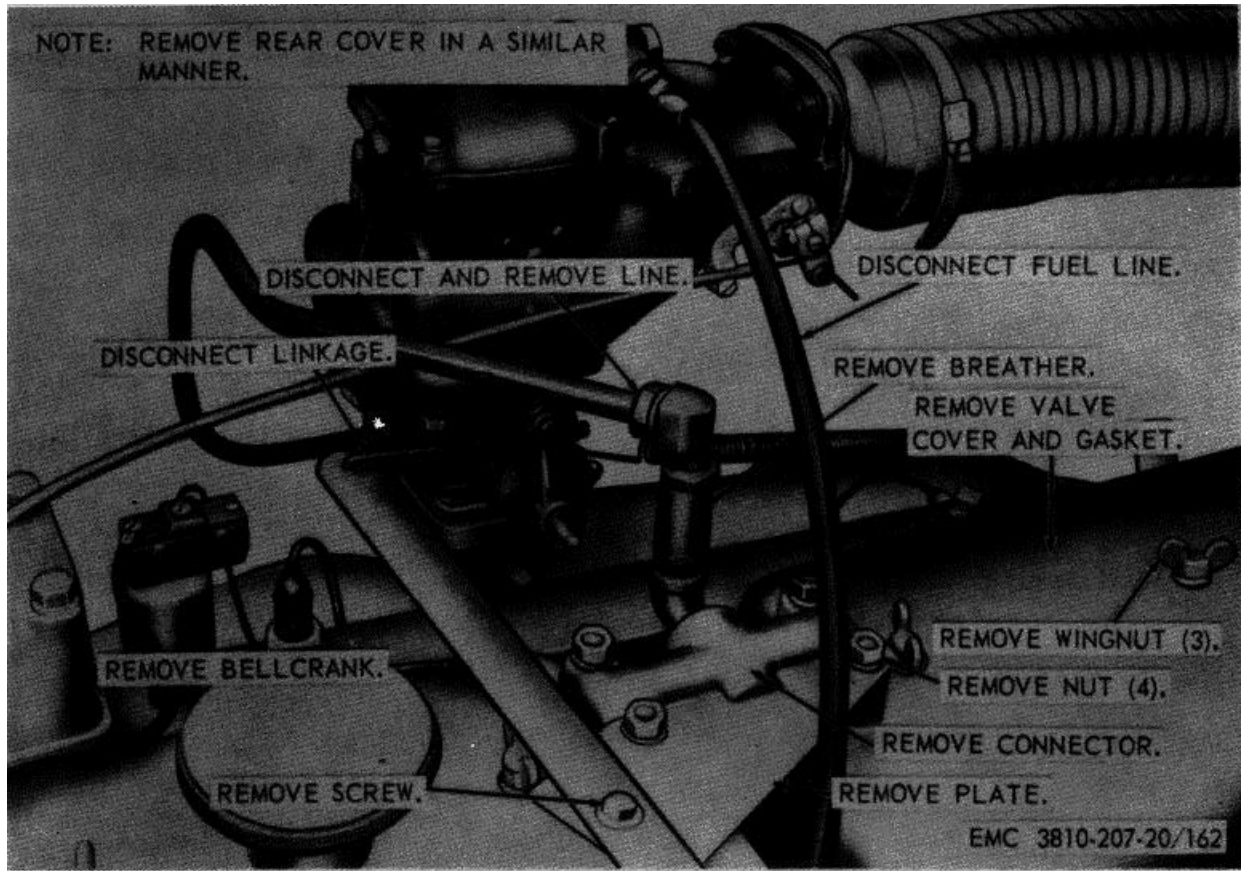

Figure 162. Valve cover, removal and installation.
- (1) Remove the breather tube from the valve cover assembly (par. 240).
- (2) Remove the accelerator bellcrank (par. 249).
- (3) Remove the rocker arm valve covers as instructed on figure 162.
- (1) Install the rocker arm valve covers as illustrated on figure 162.
- (2) Install the accelerator bellcrank (par. 249).
- (3) Install the breather tube on the valve cover assembly (par. 240).